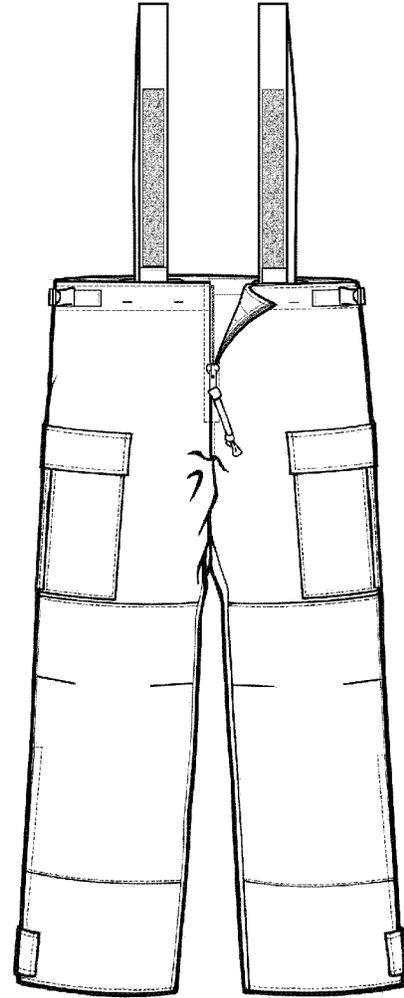
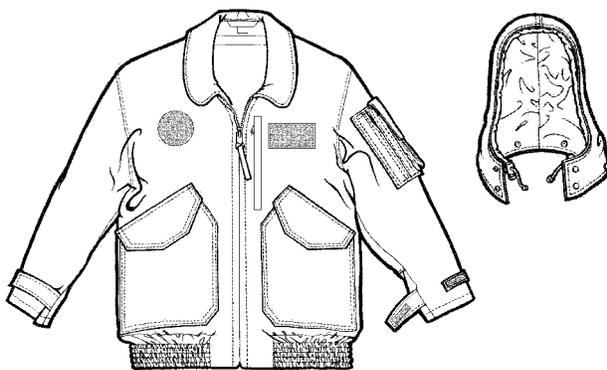

Figure 3-49. Outershell Trouser
Figure 3-48. Outershell Jacket and Hood
6. The Outershell Jacket/Hood (figure 3-48) and Trousers (figure 3-49) are a waterproof, windproof, and breathable flame-resistant Gortex™ Best Defense fabric, developed and manufactured for the MCPS. The outershell jacket can be used alone or over the other MCPS garments as layered protection. The jacket is designed to stay on the hip, has waterproof zippers, a “map” pocket on the upper left chest, hand warmer pockets behind the large front patch pockets, and the jacket has a survival hood which can be snapped onto the collar. The shell pant is made of the same fabric as the shell jacket. The pant can be put on while wearing boots and comes with suspenders to help keep them in place. The outershell trousers can be used alone or over the other MCPS components as layered protection.